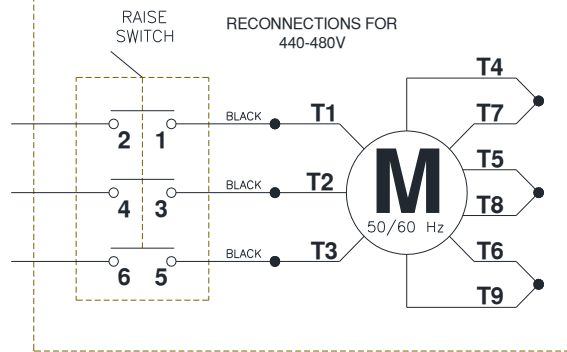

Fig 11 –Electrical Wiring Diagram
34) Refer to Fig. 11 Wiring Diagram for all steps under this heading.